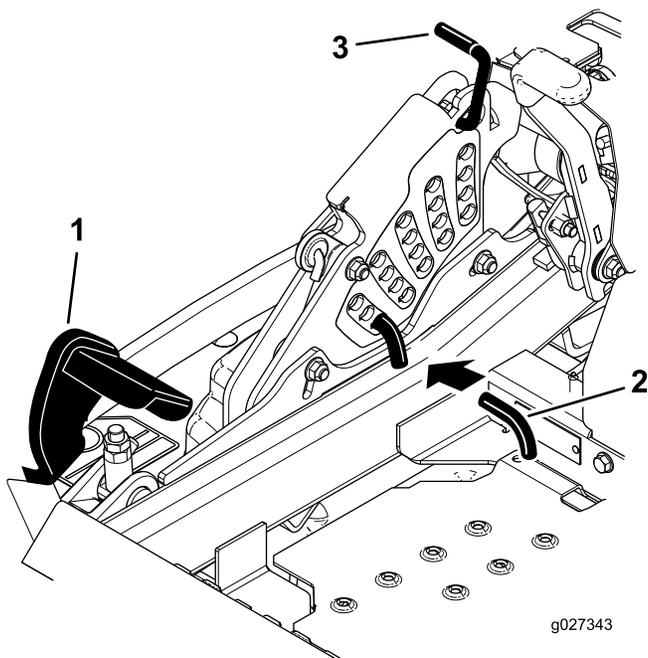

Figure 87
5. Push the deck-lift pedal all the way forward and the deck will latch at the 14 cm (5-1/2 inch) transport position (Figure 87).